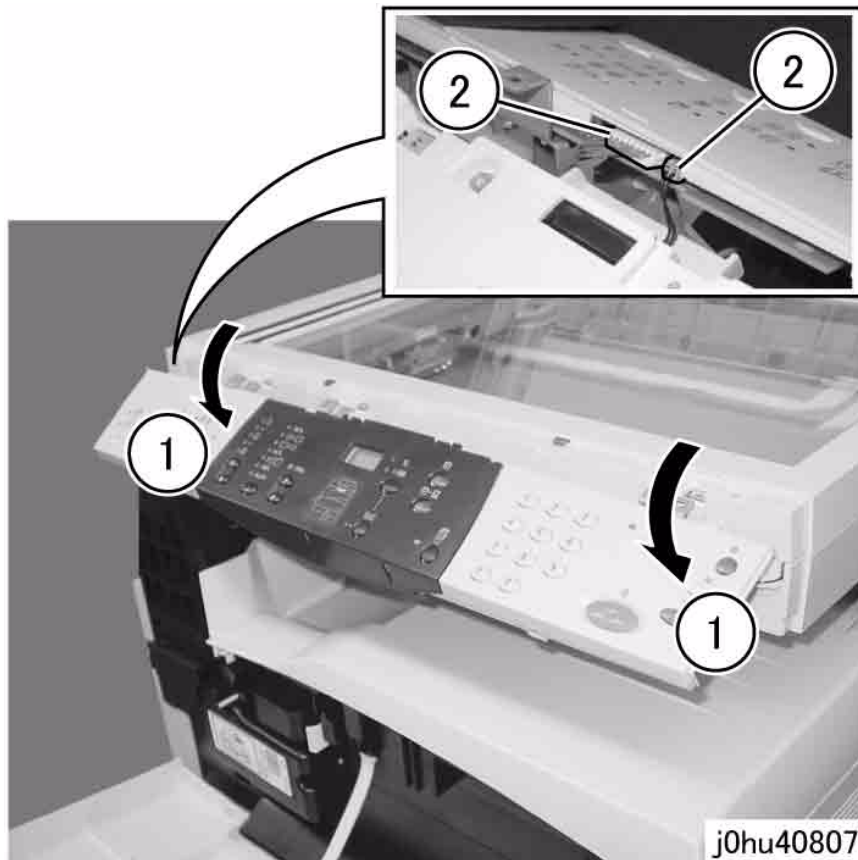

Figure 3 Remove the Control Panel
4. Remove the Control Panel (Figure 3).
- 2 Disconnect the connectors (2).